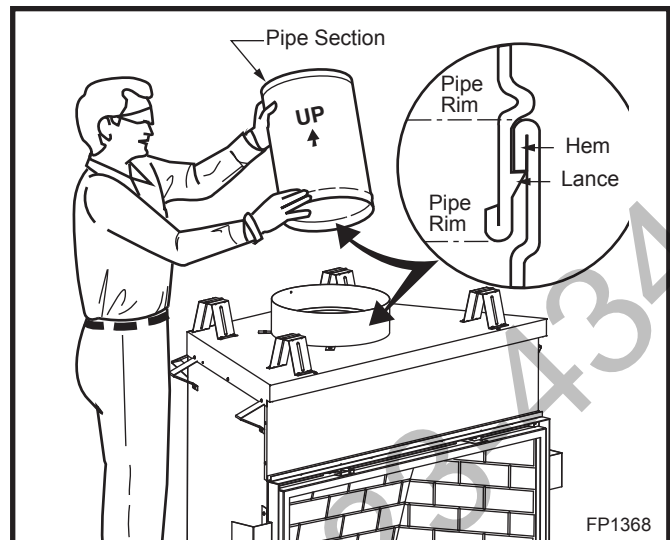

Fig. 15 Install pipe, listening for the snap-lock to fasten.
Install the pipe as shown in Figure 15. When you get a good lock, you will hear the pipe clearly snap together. Once sections are snap-locked in place, it is extremely difficult to get them apart. Make sure the pipe is firmly snapped and locked together as each pipe section is mounted. When using 45° or 90° elbows, it is acceptable to use three (3) screws (not supplied) at the joint between the vertical SK8 pipe and the elbow to ensure no separation.